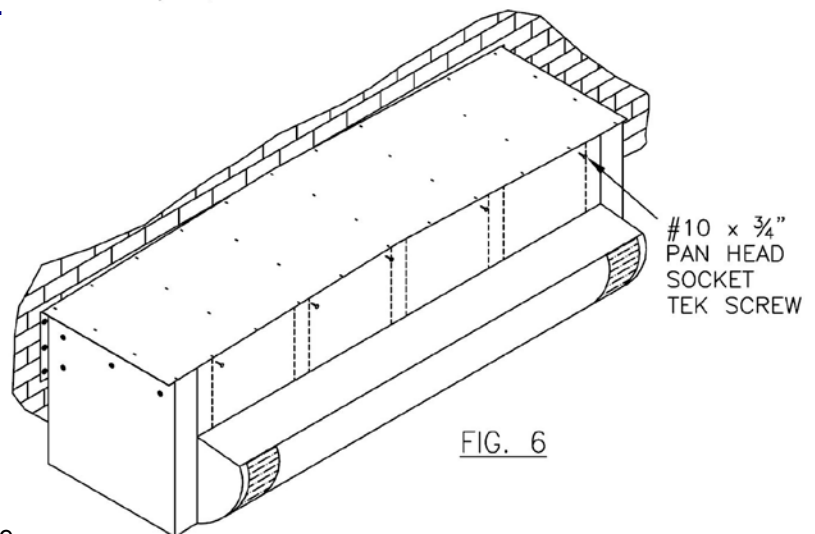

FIG. 6
- ii. Match top center of header curtain with top of center head frame (Fig. 6).